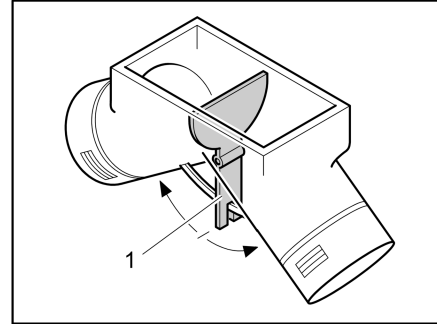

Fig. 110 Circulation fan, adjustment flap in central position
In the central position the warm air is distributed evenly to each warm air outlet. The operating lever (Fig. 110,1) for the adjustment flap is located under the base flap in the wardrobe.
- Push the operating lever (Fig. 110,1) in the direction of the arrow until the required position has been reached.